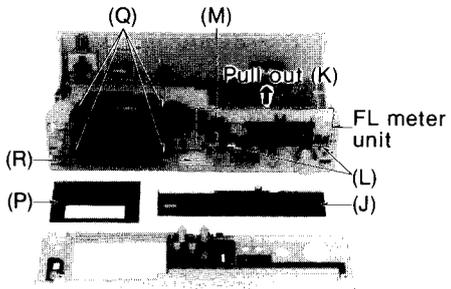
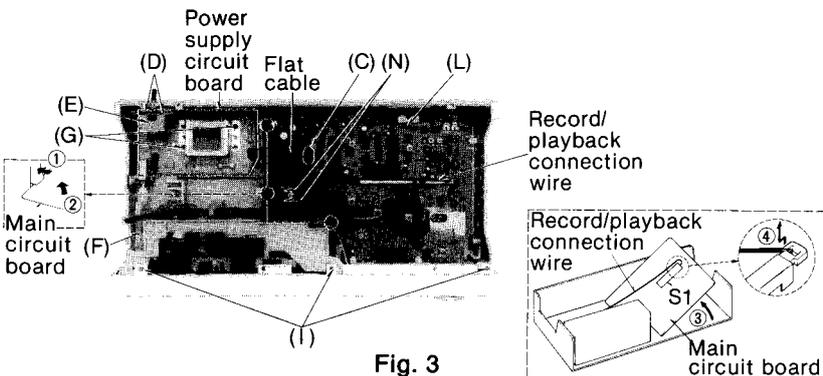
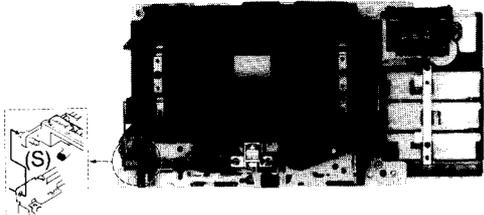

Fig. 4
Fig. 3
Fig. 5
<p>B Head azimuth adjustment</p> <p>Condition:</p> <ul style="list-style-type: none"> • Playback mode <p>Equipment:</p> <ul style="list-style-type: none"> • VTVM • Oscilloscope • Test tape (azimuth) ... QZZCFM 	<p>L-ch/R-ch output balance adjustment</p> <ol style="list-style-type: none"> 1 Make connections as shown in fig. 3. 2 Playback the 8kHz signal from the test tape (QZZCFM). Adjust screw (B) in fig. 4 for maximum output L-ch and R-ch levels. <p>When the output levels of L-ch and R-ch are not at maximum at the same time, readjust as follows.</p> <ol style="list-style-type: none"> 3 Turn the screw shown in fig. 4 to find angles A and C (points where peak output levels for left and right channels are obtained). Then, locate the angle B between angles A and C, i.e., a point where L-ch and R-ch output levels come together at maximum. (Refer to figs. 4 and 5.) <p>L-ch/R-ch phase adjustment</p> <ol style="list-style-type: none"> 4 Make connections as shown in fig. 6. 5 Playback the 8kHz signal from the test tape (QZZCFM). Adjust screw (B) shown in fig. 4 so that pointers of the two VTVMs swing to maximum and a waveform as illustrated in fig. 7 is obtained on the oscilloscope.  <p style="text-align: center;">Fig. 3</p>  <p style="text-align: center;">Fig. 4</p>  <p style="text-align: center;">Fig. 5</p>  <p style="text-align: center;">Fig. 7</p>  <p style="text-align: center;">Fig. 6</p>
<p>㊦ Playback frequency response</p> <p>Condition:</p> <ul style="list-style-type: none"> • Playback mode • Tape selector ... Normal position <p>Equipment:</p> <ul style="list-style-type: none"> • VTVM • Oscilloscope • Test tape ... QZZCFM 	<ol style="list-style-type: none"> 1. Test equipment connection is shown in fig. 3. 2. Place UNIT into playback mode 3. Playback the frequency response test tape (QZZCFM). 4. Measure output level at 315Hz, 12.5kHz, 8kHz, 4kHz, 1kHz, 250Hz, 125Hz and 63Hz, and compare each output level with the standard frequency 315Hz, at LINE OUT. 5. Make measurement for both channels. 6. Make sure that the measured value is within the range specified in the frequency response chart (shown in fig. 9). <div data-bbox="917 226 1444 510" style="text-align: center;"> <p>Playback frequency response chart</p> </div> <p style="text-align: center;">Fig. 9</p>
<p>㊦ Playback gain</p> <p>Condition:</p> <ul style="list-style-type: none"> • Playback mode • Tape selector ... Normal position <p>Equipment:</p> <ul style="list-style-type: none"> • VTVM • Oscilloscope • Test tape ... QZZCFM 	<ol style="list-style-type: none"> 1. Test equipment connection is shown in fig. 3. 2. Playback standard recording level portion on test tape (QZZCFM 315Hz), and using VTVM measure the output level at LINE OUT. 3. Make measurement for both channels <div data-bbox="528 707 1410 779" style="border: 1px solid black; padding: 5px; text-align: center;"> <p>Standard value: 455 mV ± 1 dB [around 280 mV: at test points TP3 (L-CH) and TP4 (R-CH)]</p> </div> <p>Adjustment</p> <ol style="list-style-type: none"> 1. If measured value is not within standard, adjust VR3 (L-CH), VR4 (R-CH) (See fig. 1 on page 3). 2. After adjustment, check "Playback frequency response" again